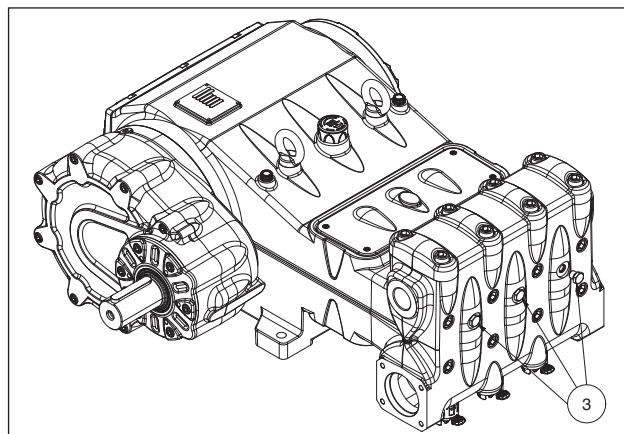

Fig. 11
Should there be any priming trouble due to insufficient supply, it is possible to remove the three plugs in front of the head (except for the MK240 version) as shown in pos. ③ Fig. 11.